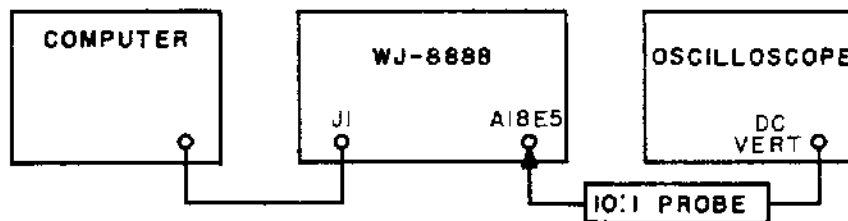

Figure 5-31. Test Setup, 1st LO Step Frequency Response
- (16) Connect the equipment as shown in Figure 5-31.